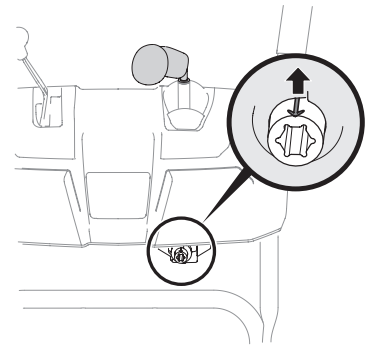

Figure 2-31
5. Rotate joystick to one o'clock position so that silver indicator arrow on pinion gear below control panel faces upward. See Figure 2-31.